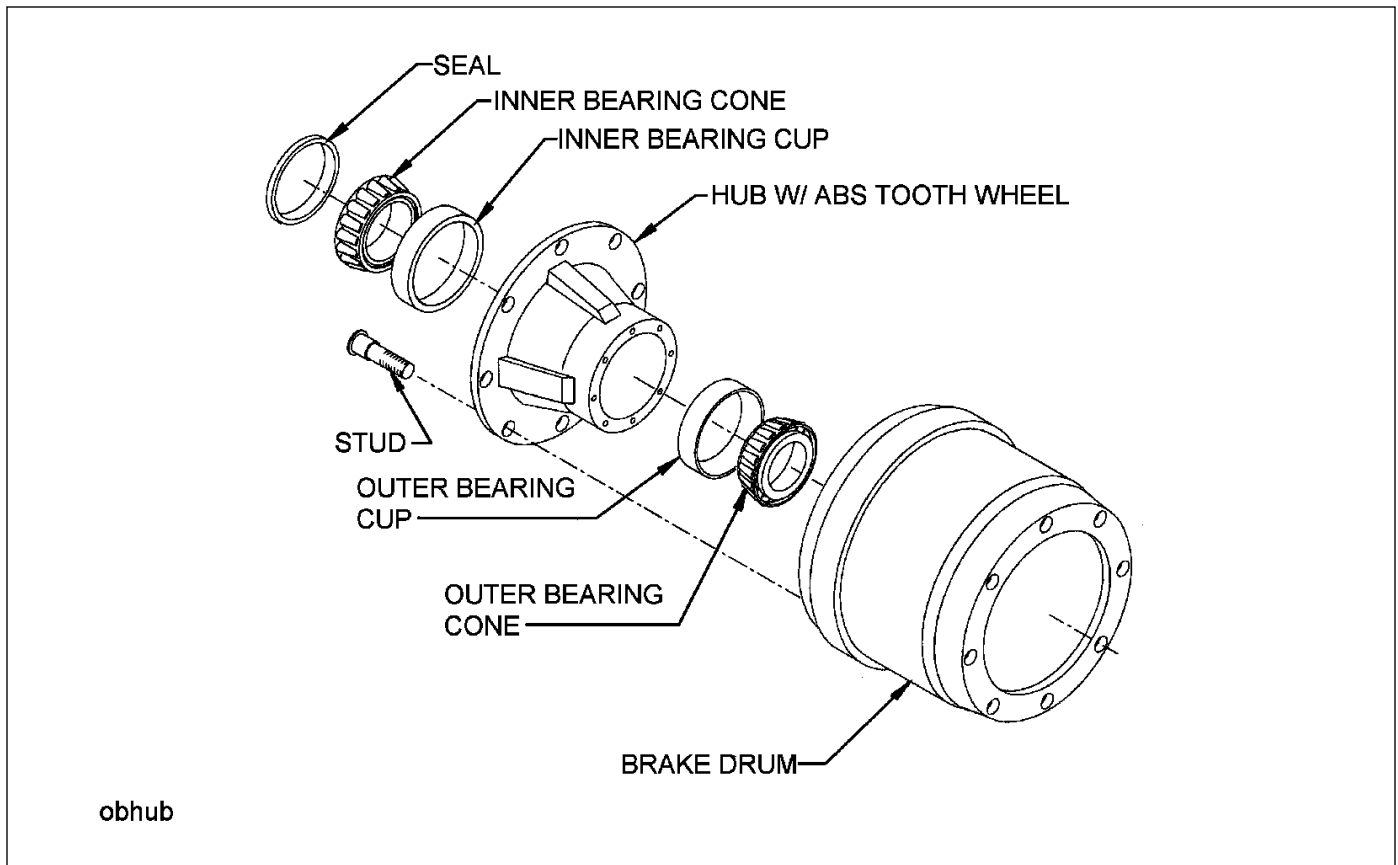

Figure 4-17: Outboard Hub and Drum
4. Replace the hub and drum as follows (**See Figure 4-17.**)
- a. Remove the brake drum (**See Figure 4-17.**) It may be necessary to release the slack adjuster.